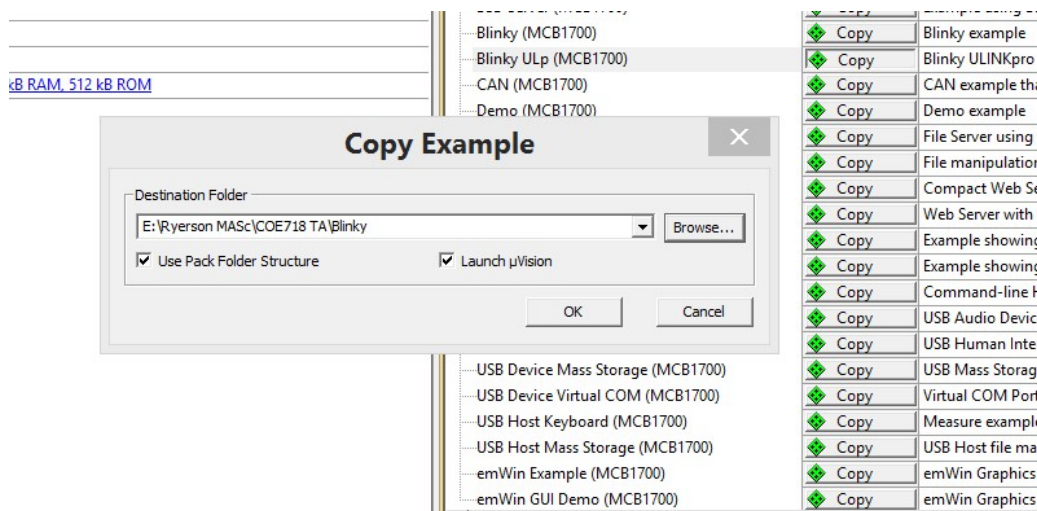

Figure 14: Workspace
5. Your workspace should now resemble Figure 14.